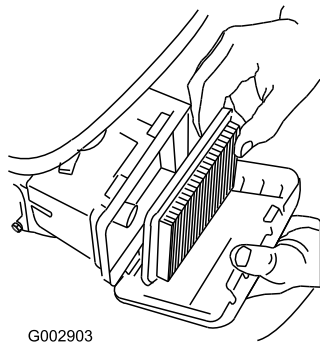

Figure 25
- Remove the air filter (Figure 25).